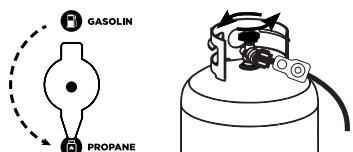

Figure 10 - Fuel Selector - PROPANE
- b. Turn the fuel selector knob to **PROPANE** (see Figure 10).